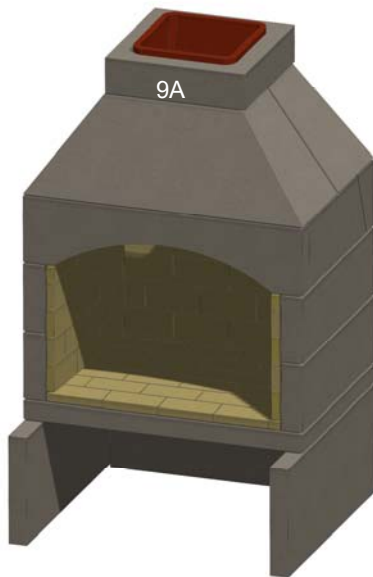

Figure 22. Chimney Flue
N. Install the first Stone Age masonry chimney section (9A), with the tile extending upward. Fill the void on the bottom with mortar to create a smooth transition. See Figure 22.